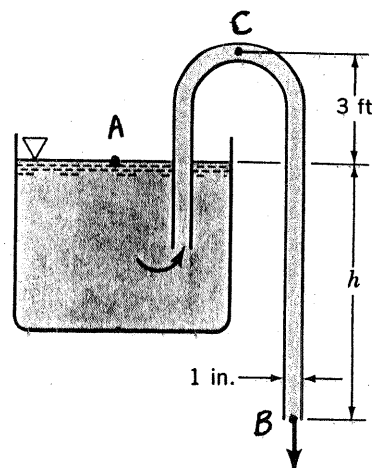

FIGURE P5.92
5.92 A siphon is used to draw water at 70°F from a large container as indicated in Fig. P5.92. The inside diameter of the siphon line is 1 in. and the pipe centerline rises 3 ft above the essentially constant water level in the tank. Show that by varying the length of the siphon below the water level, h , the rate of flow through the siphon can be changed. Assuming frictionless flow, determine the maximum flowrate possible through the siphon. The limiting condition is the occurrence of cavitation in the siphon. Will the actual maximum flow be more or less than the frictionless value? Explain.